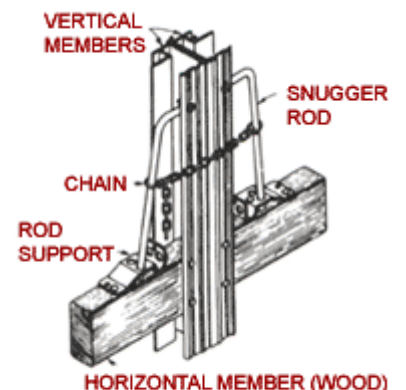

FIGURE 11
- 6.) Secure the opposite end to vertical member using (1) 1/4" fastener and nut as shown. **Fig. 11**
11.) After making certain the "S" hook is in the proper link (latched chain should be about 6" from top of horizontal member), close the "S" hook slightly so it will not become detached from the chain. **Fig. 11**